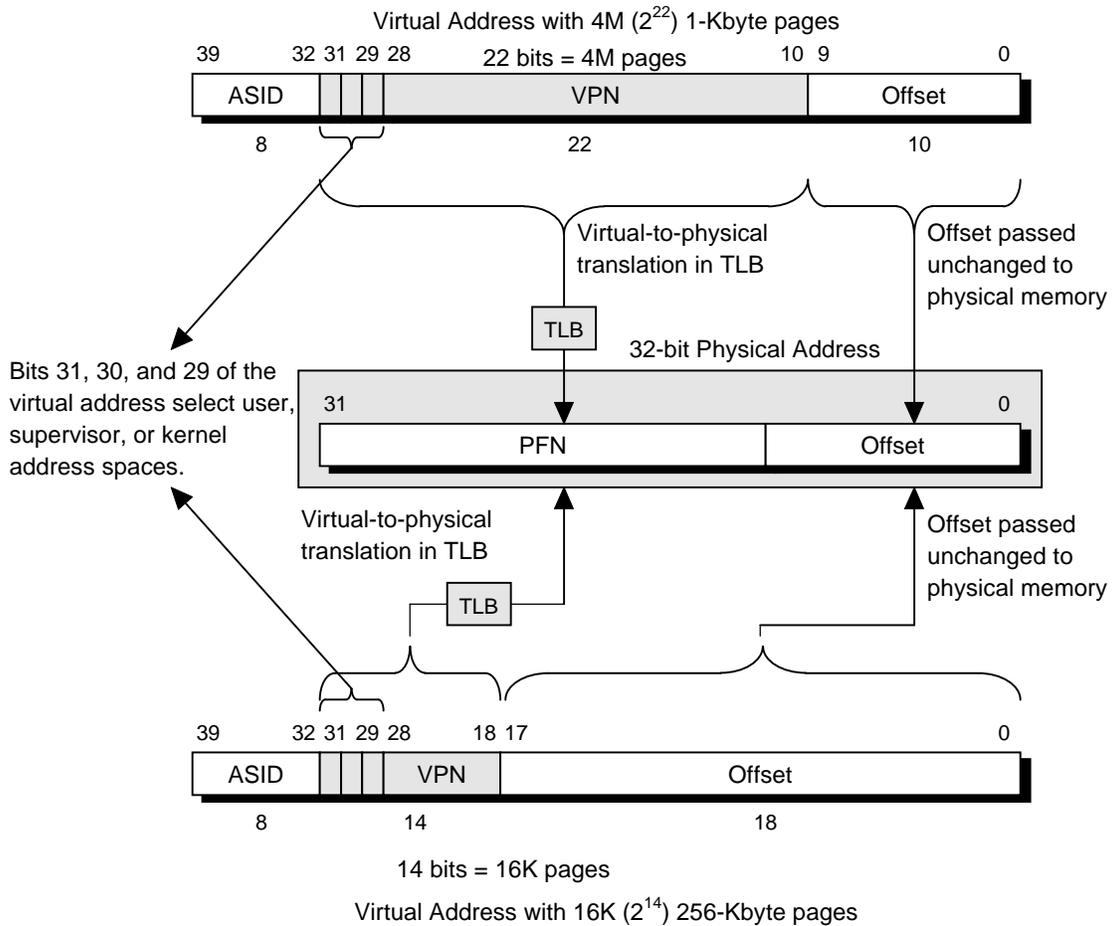
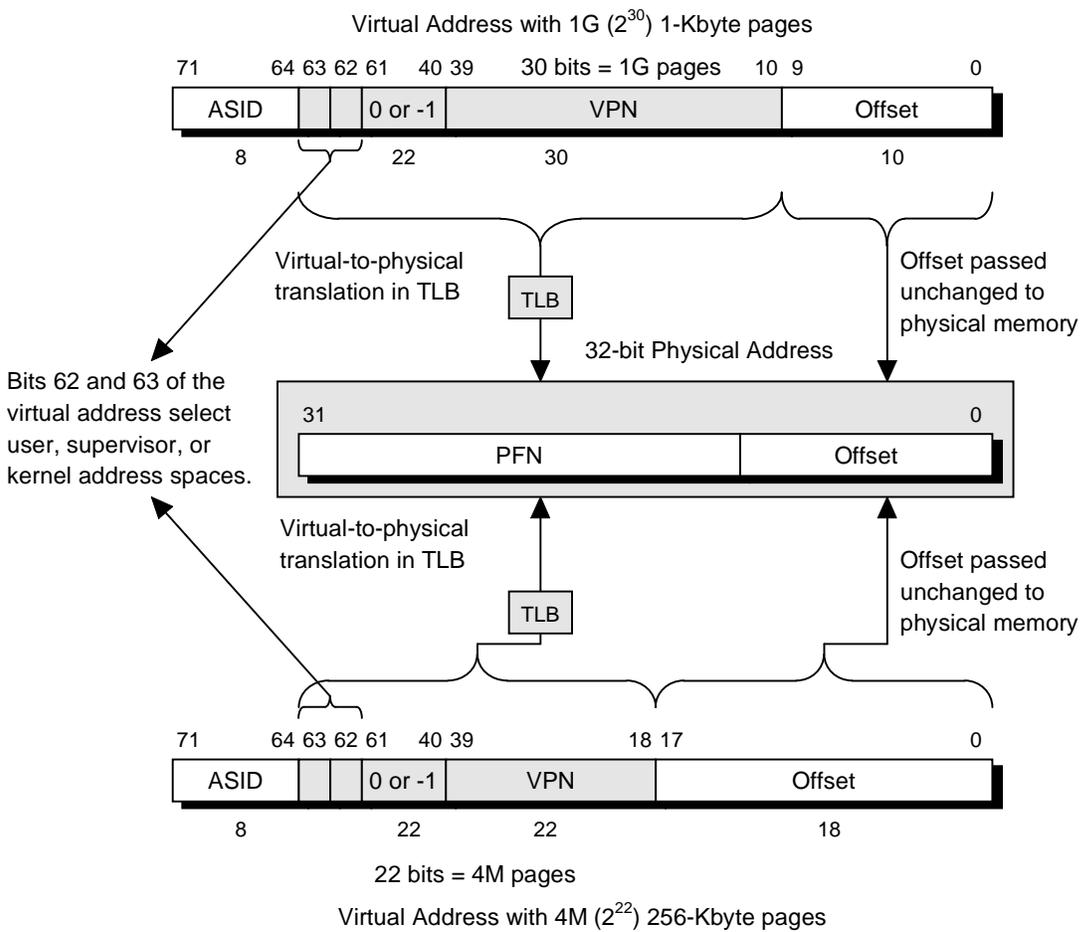

Figure 4-2 32-bit Mode Virtual Address Translation
Figure 4-3 64-bit Mode Virtual Address Translation
As shown in Figure 4-2 and Figure 4-3, the virtual address is extended with an 8-bit address space identifier (ASID), which reduces the frequency of TLB flushing when switching contexts. This 8-bit ASID is in the CP0 *EntryHi* register, described later in this chapter. The *Global* bit (*G*) is in the *EntryLo0* and *EntryLo1* registers, described later in this chapter.
Figure 4-2 shows the virtual-to-physical-address translation of a 32-bit mode address. This figure illustrates the two possible page sizes: a 1-Kbyte page (10 bits) and a 256-Kbyte page (18 bits).
- The top portion of Figure 4-2 shows a virtual address with a 10-bit, or 1-Kbyte, page size, labelled *Offset*. The remaining 22 bits of the address represent the VPN, and index the 4M-entry page table.
- The bottom portion of Figure 4-2 shows a virtual address with a 18-bit, or 256-Kbyte, page size, labelled *Offset*. The remaining 14 bits of the address represent the VPN, and index the 16K-entry page table.
Figure 4-3 shows the virtual-to-physical-address translation of a 64-bit mode address. This figure illustrates the two possible page sizes: a 1-Kbyte page (10 bits) and a 256-Kbyte page (18 bits).
- The top portion of Figure 4-3 shows a virtual address with a 10-bit, or 1-Kbyte, page size, labelled *Offset*. The remaining 30 bits of the address represent the VPN, and index the 1G-entry page table.
- The bottom portion of Figure 4-3 shows a virtual address with a 18-bit, or 256-Kbyte, page size, labelled *Offset*. The remaining 22 bits of the address represent the VPN, and index the 4M-entry page table.